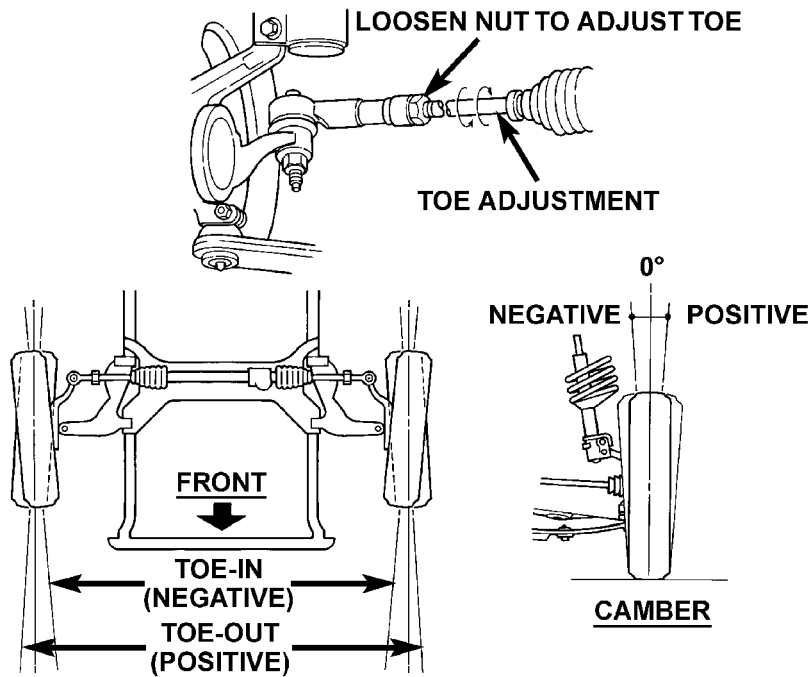

Fig. 1 Alignment Camber/Toe
Proper vehicle wheel alignment is the proper adjustment of all interrelated front and rear suspension angles (Fig. 1). These angles are what affects the handling and steering of the vehicle when it is in motion.
(3) **Toe** is measured in degrees or inches and is the distance that the front edges of the tires are closer (or farther apart) than the rear edges (Fig. 1). See Front Wheel Drive Specifications for correct front and rear wheel Toe specifications.